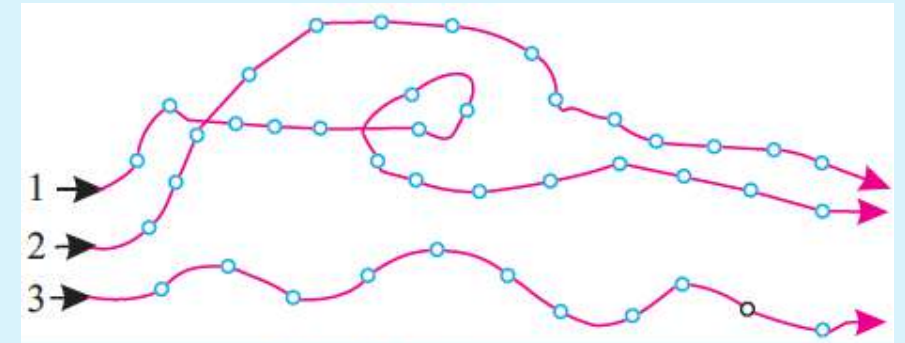

Fig. 5.7. Path lines.
1. **Path line:** A path line (Fig. 5.7) is the *path followed by a fluid particle in motion*.